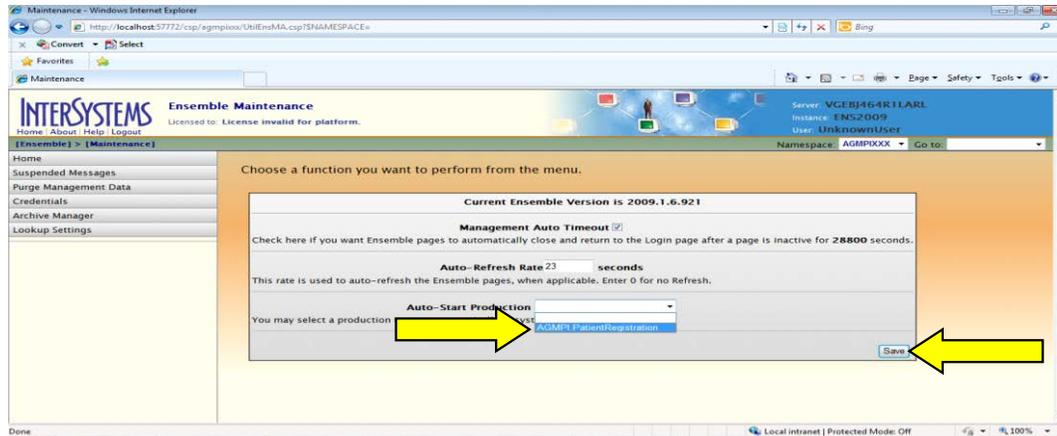

Figure 9-3: Ensemble Maintenance page
3. On the **Ensemble Maintenance** page, select **AGMPI.PatientRegistration** from the **Auto-Start Production** list as shown in Figure 9-3. Click the **Save** button to save the setting.